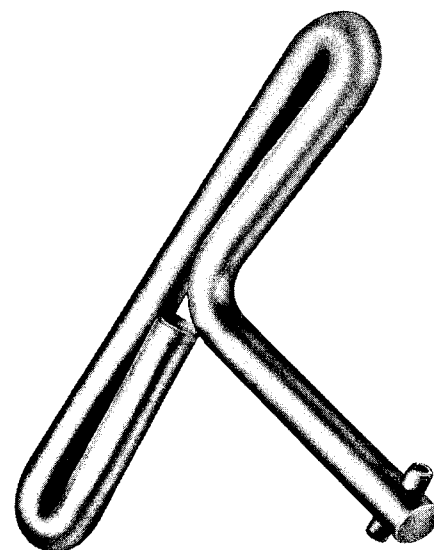

Fig. 23—719A Tool
3.29 A 719A tool (Fig. 23) is used in conjunction with the locks on the 1A-, 2A-, 235-, and